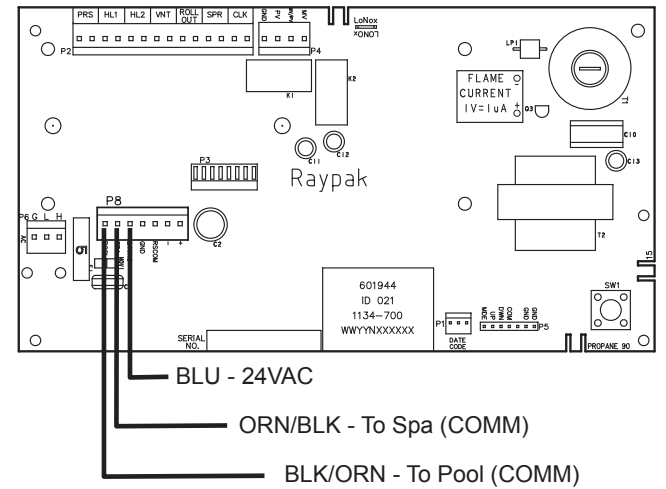

Figure 32. 3-Wire Remote Harness Installation on the P8 Connector of the ATF Board
5. Install the "Remote Interface Harness" to the P8 connector and turn power "ON" to the heater. See **Figure 32**.